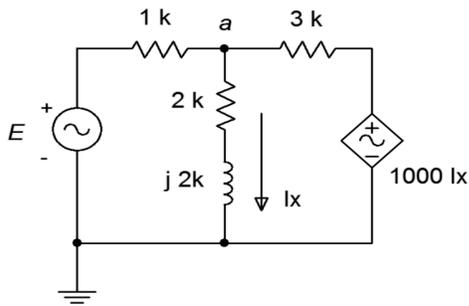

Figure 6.24
54. Determine  $v_a$  in the circuit of Figure 6.24 if the source  $E = 2\angle 0^\circ$ .
55. Given the circuit in Figure 6.24, determine the current flowing through the 1 kΩ resistor. Assume that  $E = 15\angle 45^\circ$ .